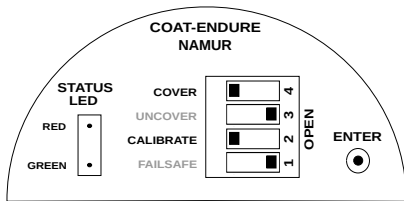

Figure 50: High Calibration Switch Position
- To start with the calibration, set the CALIBRATE & COVER switch to CLOSE (Opposite of OPEN for DIP switch) position as shown in Figure 50.
- Set the CALIBRATE and COVER switch to CLOSE (Opposite of OPEN in a DIP switch) position as shown in Figure 50.